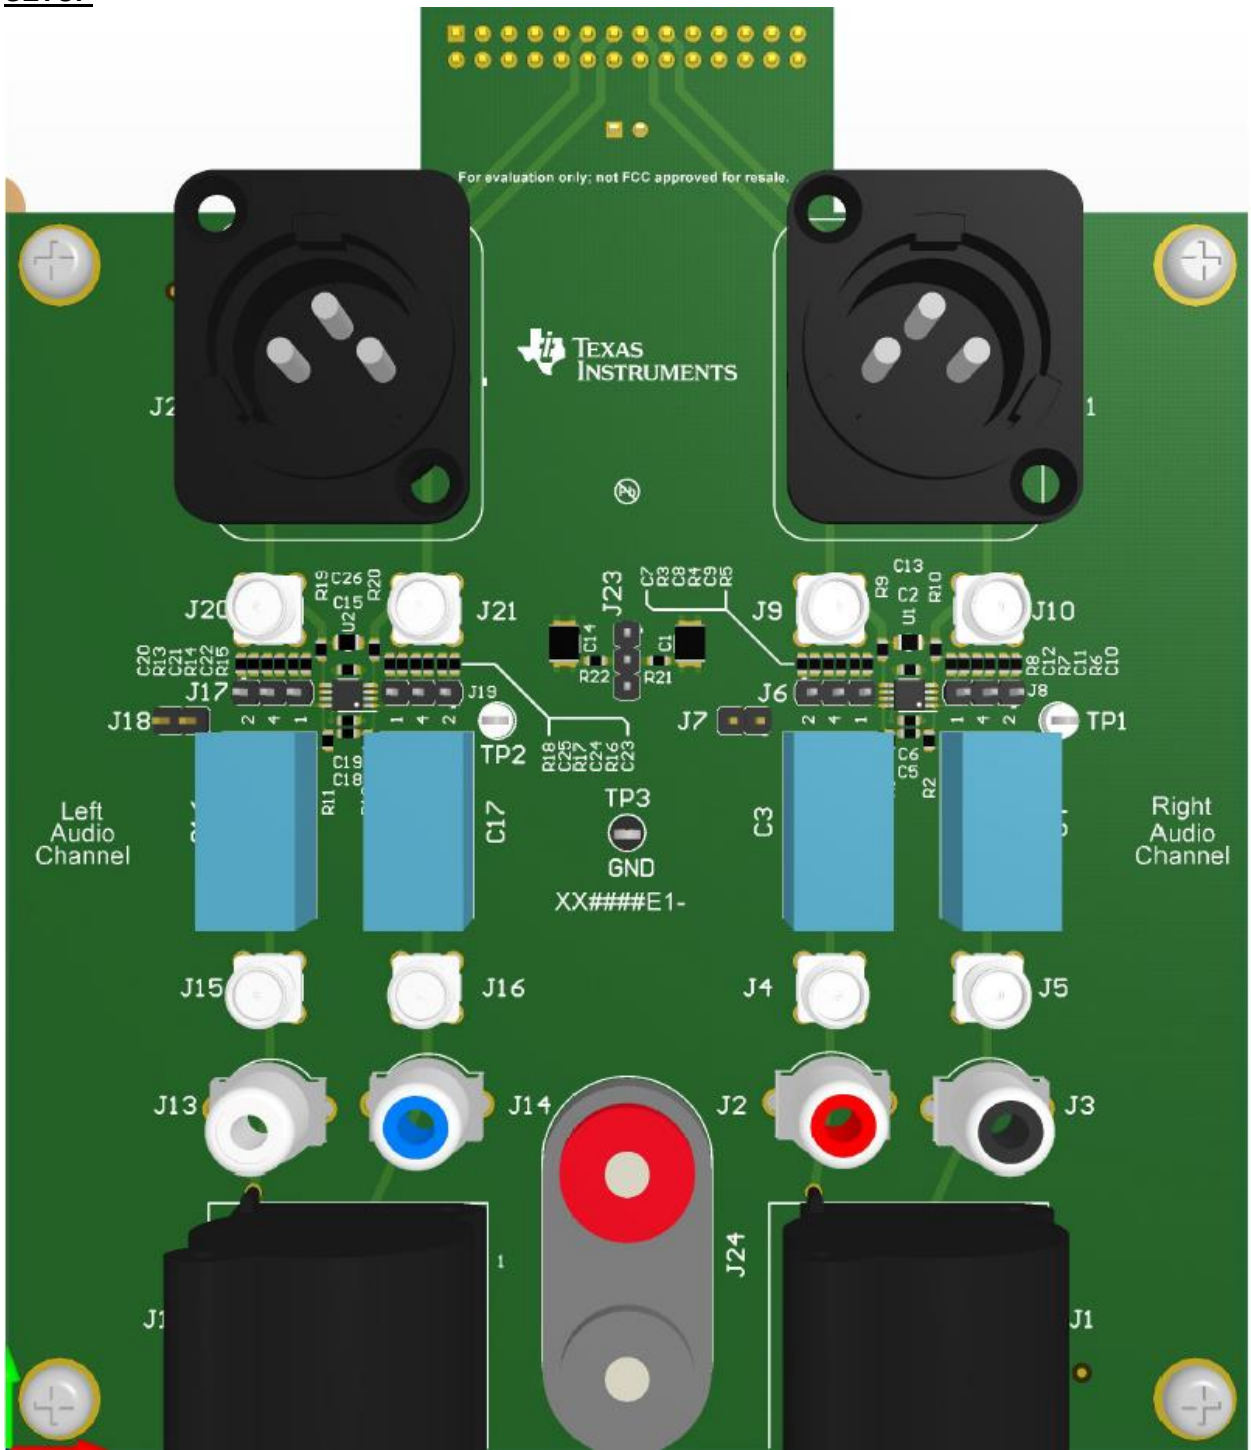

Figure 1 AUIDO-OPA1632EVM Connection Top View
- 6.1. Remove the AUIDO-OPA1632EVM from ESD bag and orient the board as shown in figure 1.
- 6.2. Remove the AUIDO-OPA1632EVM from ESD bag and orient the board as shown in figure 1.